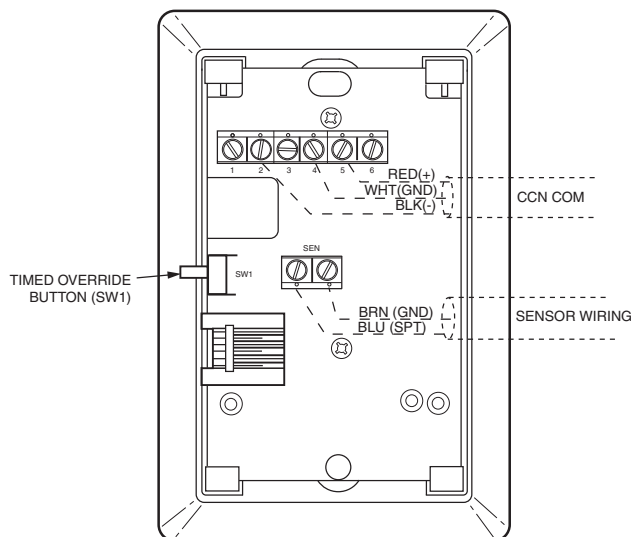

Fig. 39 — Space Temperature Sensor Typical Wiring (33ZCT55SPT)
- Space temperature sensor (33ZCT55SPT) with timed occupancy override button (see Fig. 39)